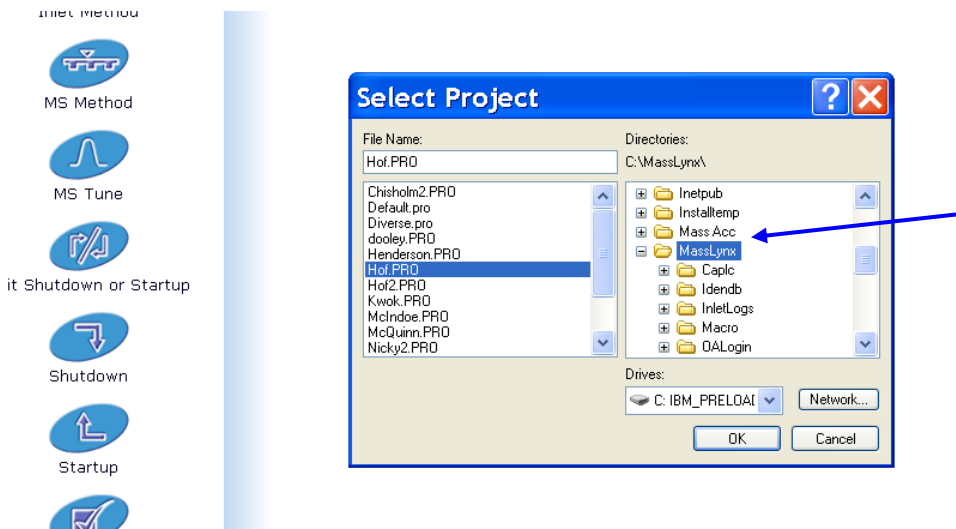

Figure 2
- a. Select your name (project) from the file (Figure 2). Make sure you are choosing from the “Masslynx” folder, not the MasslynxBackup folder (blue arrow, Figure 2).